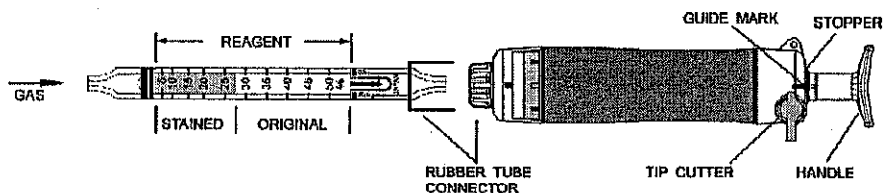

Fig.1
- ② Insert the detector tube into the aspirating pump securely as shown in Fig.1. (Arrow mark shall point to the pump.)
- ③ Align the guide marks on the shaft and stopper of the aspirating pump.
- ④ Pull the pump handle at a 1/2 stroke until it locks and wait for 1.5 minutes or until the completion of sampling is confirmed with the flow indicator of the pump (See descriptions about the flow indicator in the instruction manual of the pump).
- ⑤ On completion of sampling, read the scale at the maximum point of the stained layer.